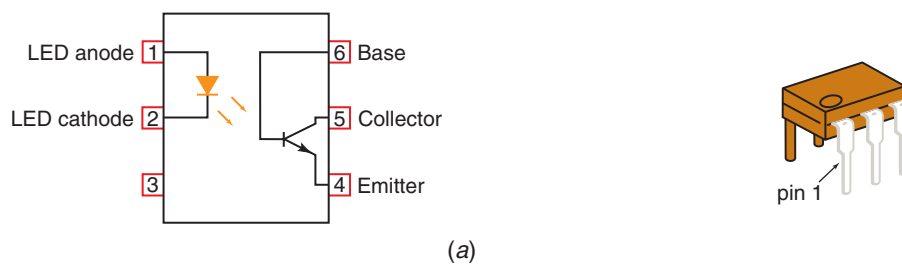

Fig. 5-27 (a) The 4N25 optoisolator pin out and six-pin DIP.
One economical optoisolator is featured in Fig. 5-27. The 4N25 optoisolator consists of a *gallium arsenide infrared-emitting diode* optically coupled to a silicon *phototransistor detector* enclosed in a six-pin dual in-line package (DIP). Figure 5-27(a) details the pin diagram for the 4N25 optoisolator with the names of the pins. On the input side, the LED is typically activated with a current of about 10 to 30 mA. When the input LED is activated, the light activates (turns on) the phototransistor. With no current through the LED the output phototransistor of the optoisolator is turned off (high resistance from emitter-to-collector).
A simple test circuit using the 4N25 optoisolator is shown in Fig. 5-27(b). The digital signal from the output of a TTL or FACT inverter directly drives the infrared-emitting diode. The circuit is designed so the LED is activated when the output of the inverter goes LOW, which allows the inverter to sink the 10 to 20 mA LED current to ground. When the LED is activated, infrared light shines (inside the package) activating the phototransistor. The transistor is turned on (low resistance from emitter-to-collector) dropping the voltage at the collector (OUTPUT) to near 0 V. If the output of the
A simple application of the optoisolator being used to interface between TTL circuitry and a piezo buzzer is diagramed in Fig. 5-27(c). In this example the pull-up resistor is removed because we are using the NPN phototransistor in the optoisolator to sink the 2 to 4 mA of current when the transistor is activated. A LOW at the output of the inverter (pin 2 of optoisolator) activates the LED, which in turn activates the phototransistor.
To control heavier loads using the optoisolator we could attach a power transistor to the output as is done in Fig. 5-27(d). In this example, if the LED is activated it activates the phototransistor. The output of the optoisolator (pin 5) drops LOW, which turns off the power transistor. The emitter-to-collector resistance of the power transistor is high, turning off the dc motor. When the output of the TTL inverter goes HIGH it turns off the LED and the phototransistor in the optoisolator. The voltage at output pin 5 goes positive, which turns on the power transistor and operates the dc motor.
If the power transistor (or other power-handling device such as a triac) in Fig. 5-27(d) were housed in the isolation unit the entire device is sometimes a *solid-state relay*. Solid-state
Fig. 5-27 (cont.) (b) Basic optoisolator circuit separates 5 V and 12 V circuits. (c) Optoisolator driving piezo buzzer. (d) Optoisolator isolating low-voltage digital circuit from high voltage/current motor circuit.
relays can be purchased to handle a variety of outputs included in either ac or dc loads. The output circuitry in a solid-state relay may be more complicated than that shown in Fig. 5-27(d).
spikes and noise. Traditionally, electromagnetic relays have been used for isolation, but optoisolators and solid-state relays are an inexpensive and effective alternative when interfacing with digital circuits. A typical optoisolator, shown in Fig. 5-27(a), contains an infrared-emitting diode that activates a phototransistor. If you are building an interface project using the parallel port from an IBM-compatible or PC, you will want to use optoisolators between your circuits and the computer. The PC parallel-port outputs and inputs operate with TTL level signals. Good isolation protects your computer from voltage spikes and noise.
55. Refer to Fig. 5-27(b). If the output of the TTL inverter goes LOW, the infrared LED _____ (does not light, lights), which _____ (activates, deactivates) the phototransistor and the voltage at pin 5 (output) goes _____ (HIGH, LOW).
56. Refer to Fig. 5-27(b). The 10-k Ω resistor connecting the collector of the phototransistor to +12 V is called a(n) _____ resistor.
57. Refer to Fig. 5-27(c). If the output of the TTL inverter goes HIGH the LED _____ (does not light, lights), which _____ (activates, deactivates) the phototransistor and the voltage at pin 5 (output) goes (HIGH, LOW) and the buzzer _____ (does not sound, sounds).
58. Refer to Fig. 5-27(d). If the output of the TTL inverter goes HIGH the LED does not light, which deactivates (turns off) the phototransistor and the voltage at pin 5 (output) goes more positive. This positive-going voltage at the base of the power transistor _____ (turns on, turns off) Q_1 and the dc motor _____ (does not run, runs).
60. Refer to Fig. 5-27(c). If the input to the inverter is HIGH then the piezo buzzer _____ (will not sound, will sound).